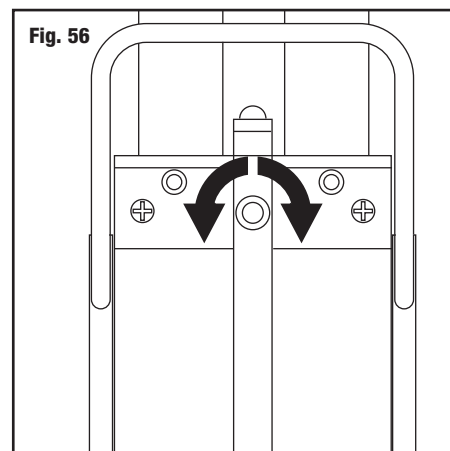

Fig. 56
2. To adjust, tighten (turn right) to reduce depth, loosen (turn left) to increase depth (Fig. 56).